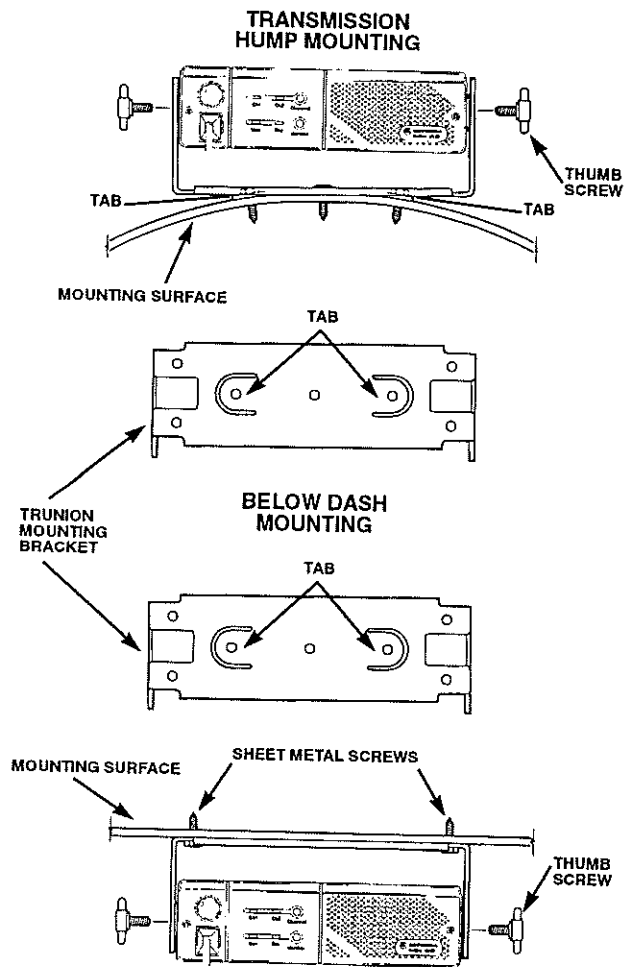

Figure 4. Trunnion Mount for Radio
(See Figure 4)
1. Select the location to mount your radio either on the **Transmission Hump** or **Under the Dash** (see Figure 4).